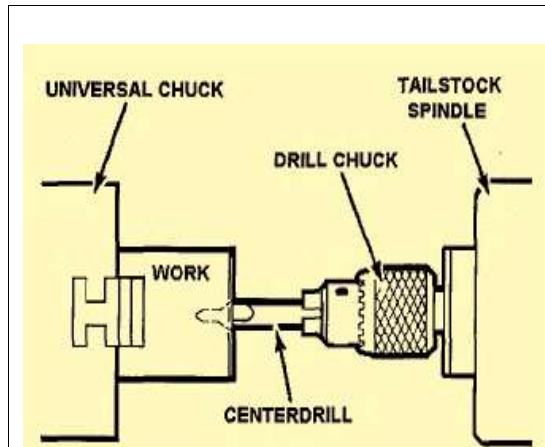

Figure 7-39. Center drilling.
**Work Between Centers:** Before mounting lathe centers in the headstock or tailstock, thoroughly clean the centers, the center sleeve, and the tapered sockets in the headstock and tailstock spindles. Install the lathe center in the tailstock spindle with a light twisting motion to ensure a clean fit. Install the center sleeve into the headstock spindle and install the lathe center into the center sleeve with a light twisting motion. To remove the center from the tailstock, turn the tailstock handwheel to draw the tailstock spindle into the tailstock. The center will contact the tailstock screw and will be bumped loose from its socket. (Figure 7-39).